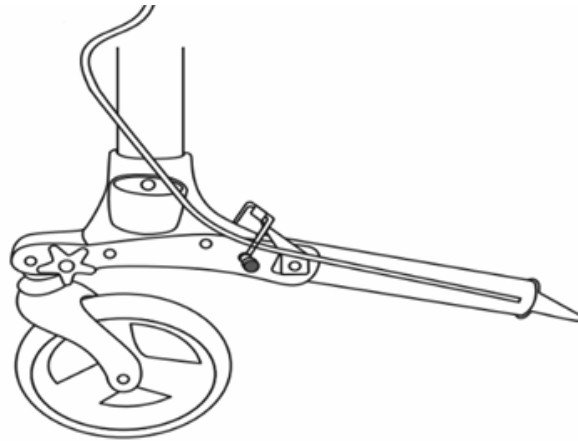

FIGURE 3
STEP 3: Unfold the rear legs as shown in Figure 3 and secure them in place with the star-shaped adjustment knobs. Ensure that the wing nut is threaded through the hole in the leg and into the frame nut. Check that the bolts on the leg knobs of the rear legs are tightened securely.